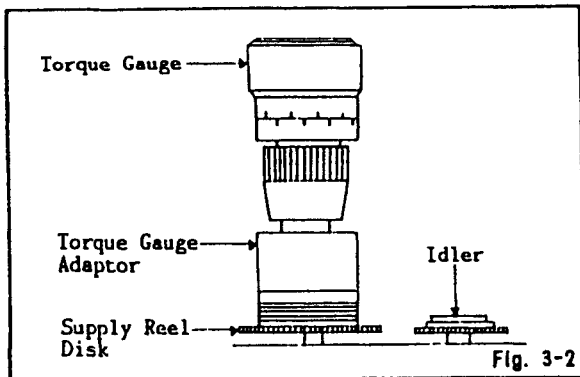

Fig. 3-2
2. Set torque gauge (JG002G) on supply reel disk, and place the unit in REWIND mode. (Refer to Fig. 3-2)